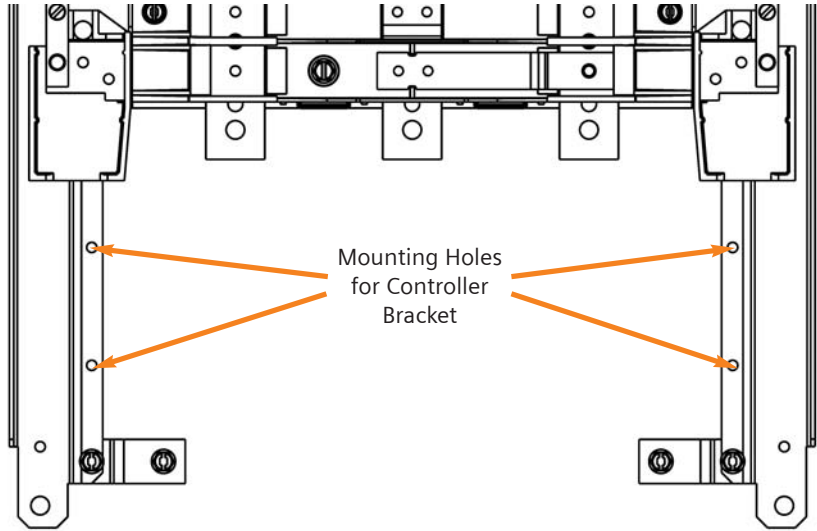

Figure 6.19
4. Align the controller mounting bracket holes to the holes of base rail as shown in figure 6.19.
5. Install and tighten the screws (4 total) into the mounting holes as shown in figure 6.19 to secure the i-3 controller position.